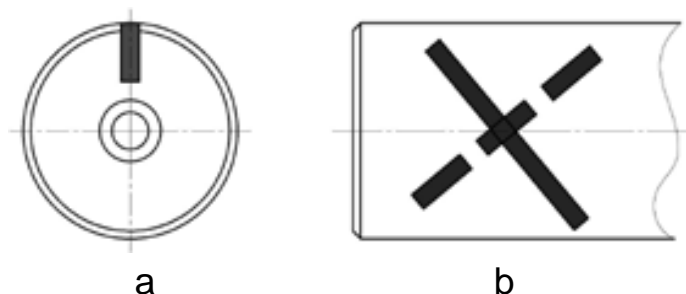

Fig. 7.1. Examples of marking end (a) and lateral (b) surfaces of free end of the shaft.
7.6.3 Apply a contrast mark (for example, with a black marker or white crayon) on the end surface of the free end of the shaft (Fig. 7.1 a) or two marks on opposite sides (crossing) on the side surface of the free end of the shaft (Fig. 7.1 b).